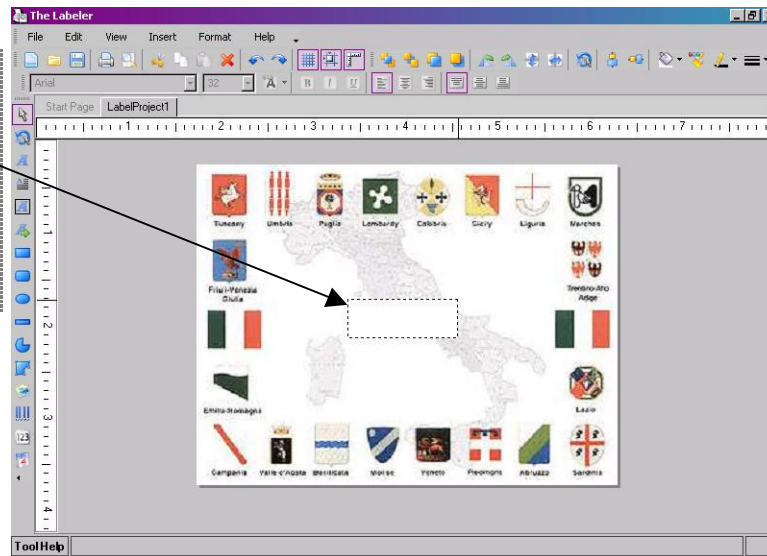

Figure 4.2.2.3: Shape is ready to be resized
4. Drag the shape in any direction to resize it to the desired size (see Figure 4.2.2.4).